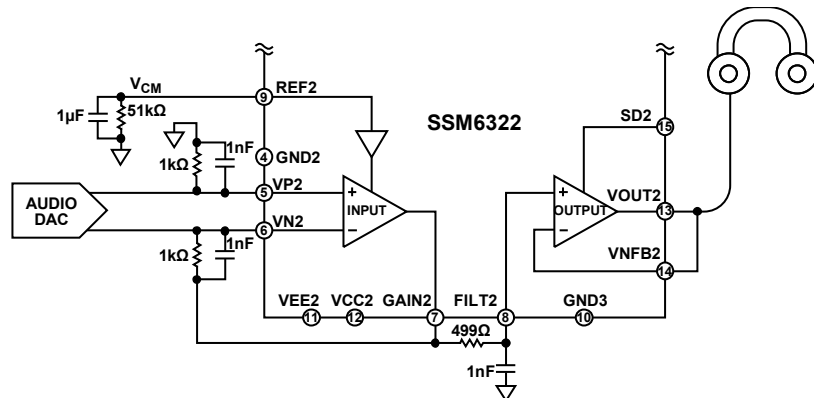

Figure 46. SSM6322 Circuit with Current Output DAC
For an audio DAC with a differential current output, two gain resistors convert the current to voltage (see Figure 46). The resistor value is determined by the DAC output full-scale current and the input stage output range (the output range is  $\pm 3$  V at a  $\pm 5$  V supply). Assuming that the DAC single-ended output current is  $\pm 1.5$  mA, and that the differential current is  $\pm 3$  mA, the output of the input stage is  $\pm 3$  V when using two 1 k $\Omega$  gain resistors. The feedback capacitors, in parallel with the gain resistors, form a single-pole, low-pass filter. The SSM6322 can handle up to a 1 k $\Omega$  and 2.2 nF resistor capacitor combination.
A 499  $\Omega$  resistor and 1 nF capacitor can be added between the input stage and output stage for a second single-pole, low-pass filter, as shown in Figure 46.
- The SSM6322 circuit is different with a typical current output DAC signal chain (see Figure 41); there is only one op amp that performs the differential I to V conversion. The power across the noninverting grounded resistor is fixed, but the power across the feedback resistor varies with the output signal. This variability creates a mismatch between the two resistors, as well as distortion if the heat cannot be well dissipated. Low drift (25 ppm/°C) metal film or thin film resistors are suggested to avoid this situation (see Figure 46).